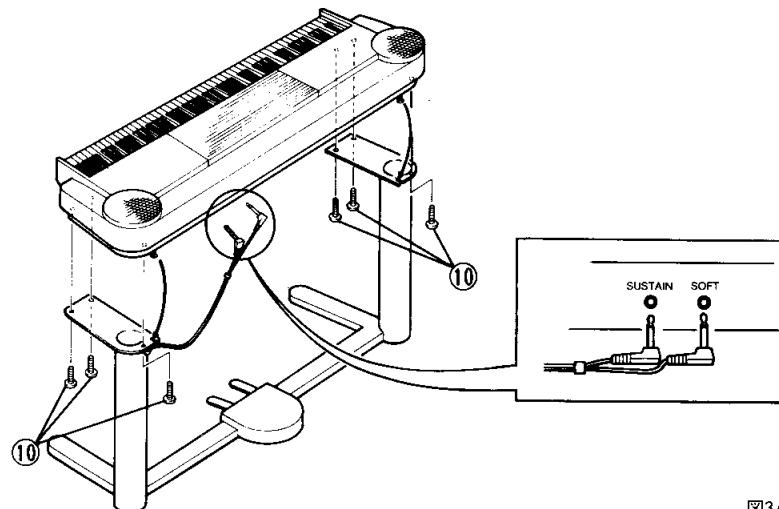

図3/Figure 3
ベースAss'yが下になるように設置し、図3に示すようにPF1200/1500 の下にあるガイドスクリューをスタンドの穴までスライドさせ、M6×16 ⑩ の固定ネジで締付けます。
Turn the assembled stand right side up so that the base assembly is on the bottom. As shown in Figure 3, slide the guide screws on the bottom of the PF1500 all the way into the slots in the stand. Tighten the M6×16 screws ⑩ . Insert the pedal plugs into the back of the PF1500; the plug with the longer lead going to the SOFT terminal and the plug with the shorter lead going to the SUSTAIN terminal.